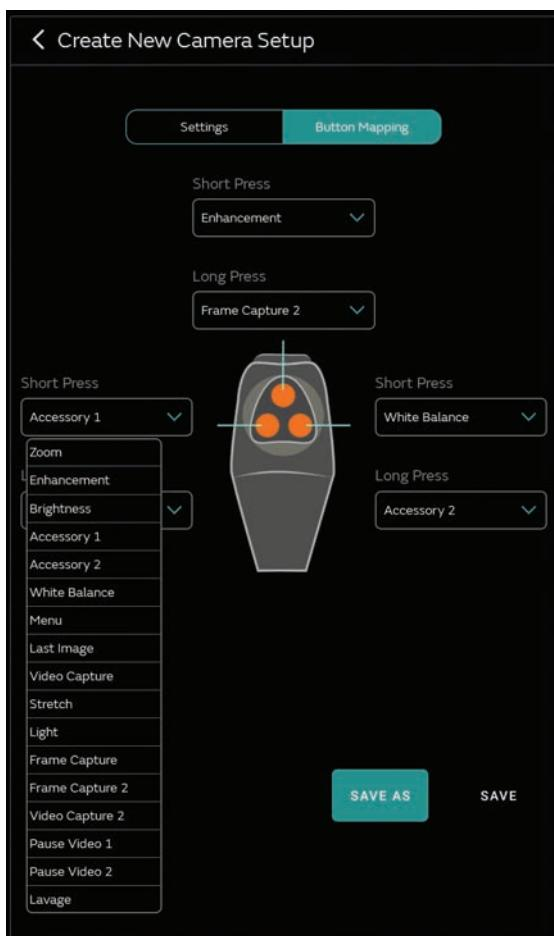

Figure 39. Selecting Button Mapping Functions
- Select which function to associate with each button for each short or long button press (Figure 39).
Note: The Light Mode function on the Camera Control Unit (CCU) is the same as the Standby Toggle label on the INTELLIO® Tablet Button Mapping. (Figure 39). Only the Camera Head controls the Light Mode, not the INTELLIO Tablet.